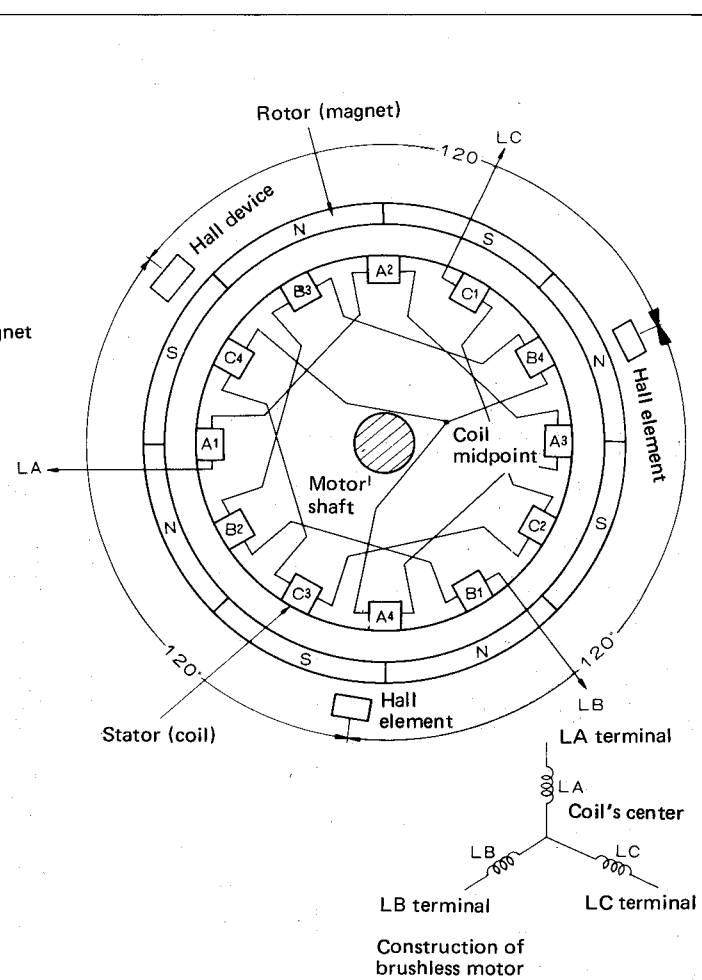

Figure 3-10.
As the rotor rotates some 30° , Tr5 turns off and Tr6 on. Now the rotating magnetic field of the stator has rotated 60° and appears as (2). The rotor therefore rotates in the direction of arrow to the position of (3). Thus transistors' switching and rotation of the rotor continue. This is the operating principle of the brushless motor. Actually when used as a direct-drive motor, it has more poles to cope with variation of speed due to torque variation and to remove caking due to low speed, and it is given larger torque and inertia to improve efficiency and stability of speed. This is realized by the out rotor having a large diameter. The brushless motor actually used has a 3-phase, 4-coil, 8-pole-core out rotor. (See Figure 3-10.) The position of the rotor is detected by three Hall devices and an ICI704) switches motor coil current depending on the output of the Hall devices to control rotation. The Hall device is a metal or semiconductor chip made to detect magnetic field. If magnetic field B is applied to a semiconductor through which current I is flowing (see Figure 3-11), a voltage develops in the direction which is perpendicular to both the current and the magnetic field. The voltage is proportional to the intensity of magnetic field B and the direction of the voltage is determined by the direction of the magnetic field. This is called the Hall effect and this is made use of to detect the position of the rotor.